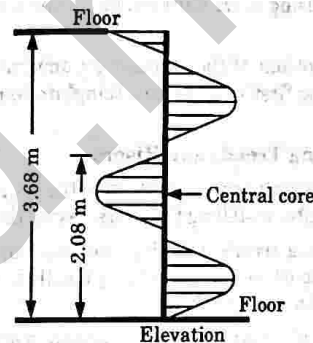

Fig. 3.14.3. Spiral stair.
3. **Circular or Helical or Spiral Stairs :** In this type of stair, the steps radiate from the centre and they do not have either any landing or any intermediate newel post. Fig. 3.14.3 shows the details of a circular stair.